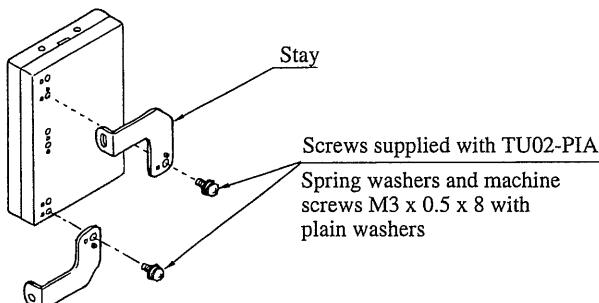

Fig. 1-7
- Install the stays as shown in Fig. 1-7.